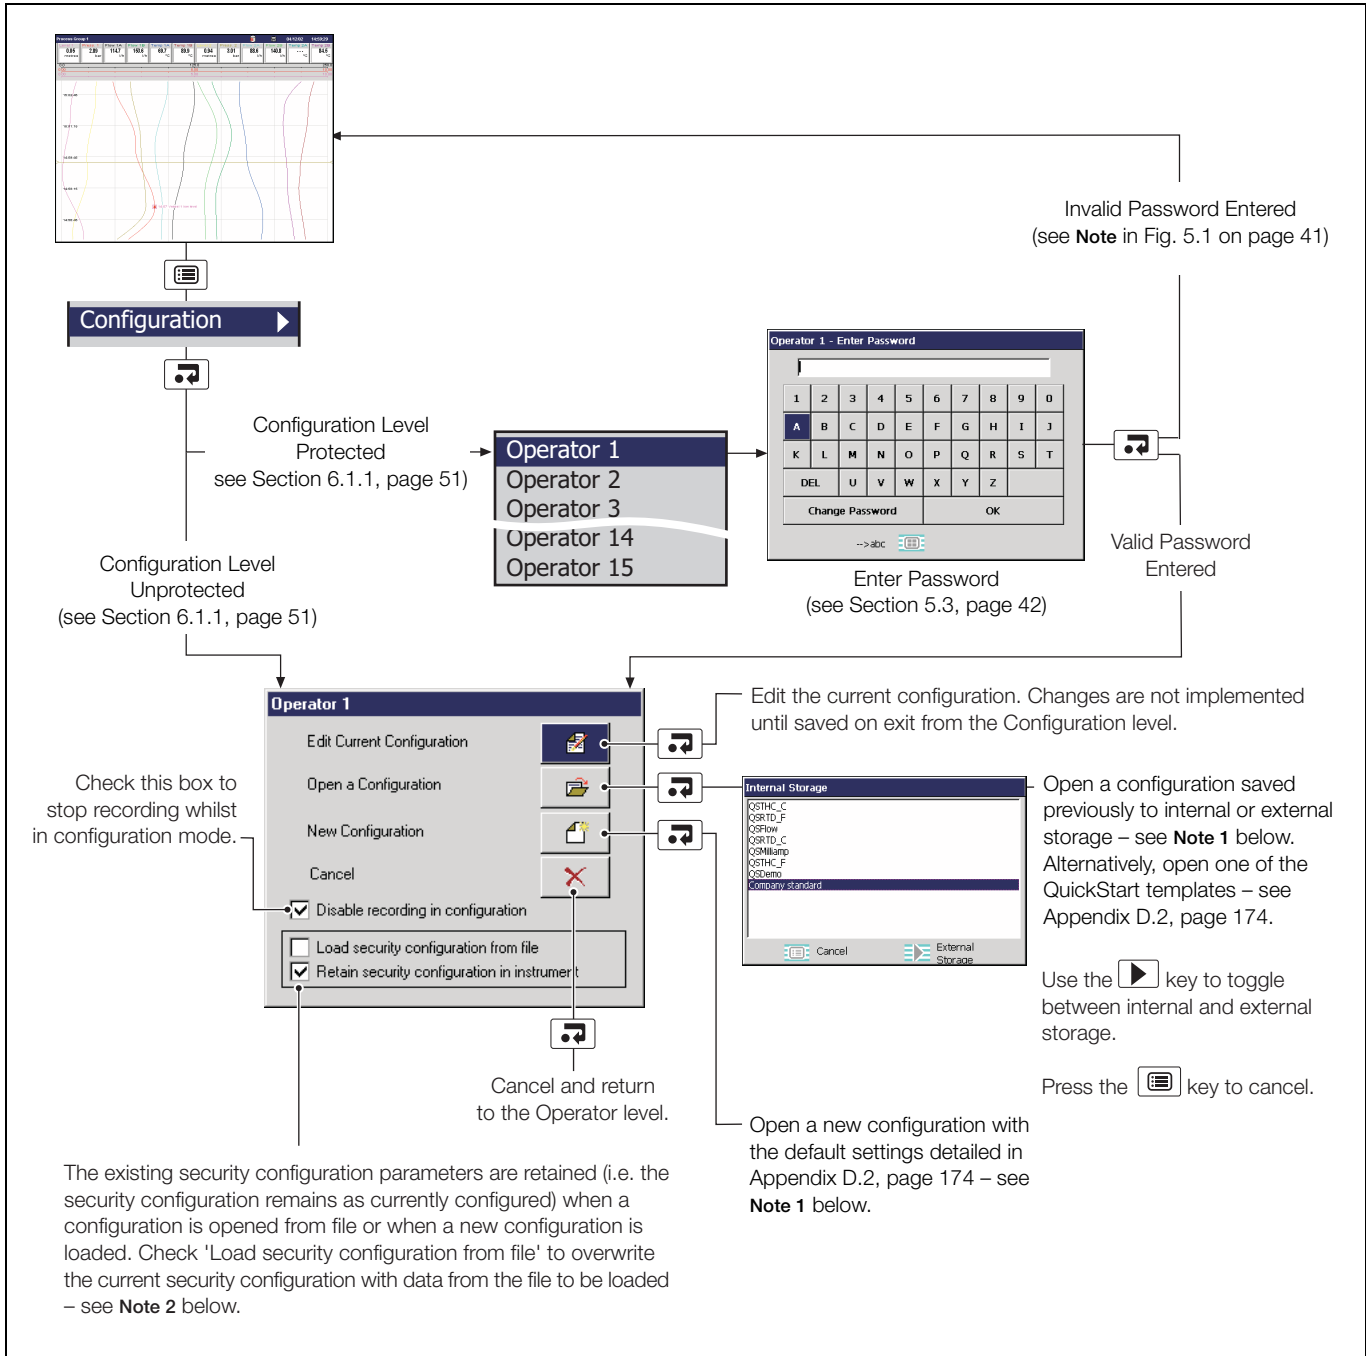

Fig. 6.1 Accessing the Configuration Level
The Configuration level cannot be accessed until the correct password has been entered – see Fig. 6.1, page 52.
- Access the Configuration Level – see Fig. 6.1, page 52.
- Make changes to parameters as detailed in Figs. 6.1 and 6.3.